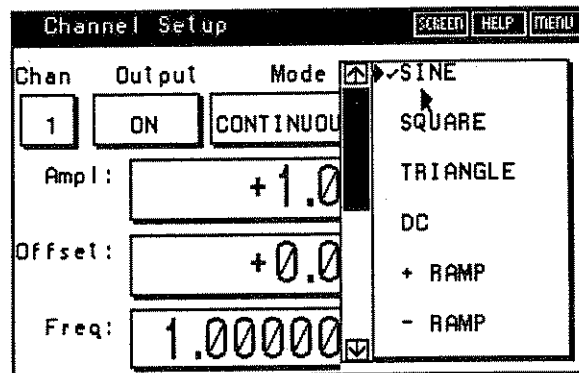

Figure 2-15. Changing Functions
7. **Function Check.** Connect the Arb Channel to the scope as described in step 3. To select functions, place the mouse pointer in the Function field and click the left mouse button. Select the square wave from the pop-up list with the left mouse button or by pressing the "soft" key next to SQUARE. See Figure 2-15. Observe the square wave on the scope.